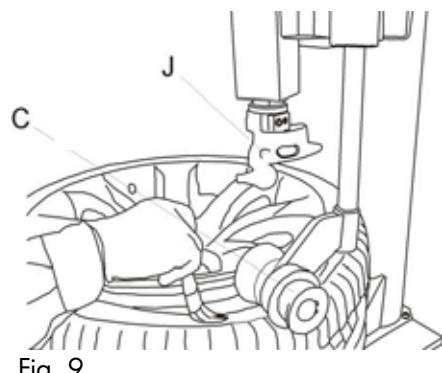

Fig. 9
1. Press tyre with right pressing roller C, G to a position 3 cm lower than rim edge, lubricate tyre bead, rotate turntable, lift roller C, G. (fig 9).